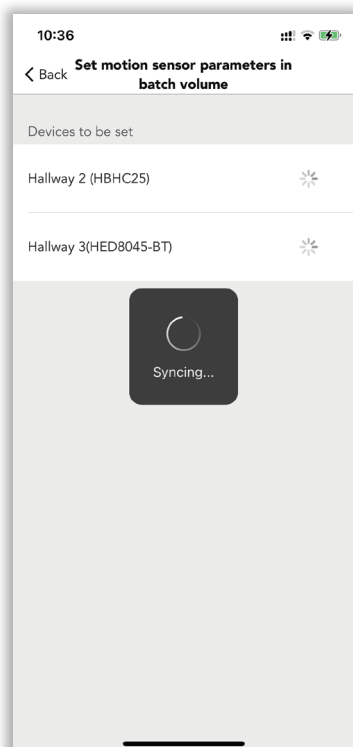

Figure 6.19 Syncing
- Step 3. Select “set luminaire parameters in batch volume”. Create a new profile and change the settings accordingly. Sync to all the relevant luminaires (see figure 6.19).